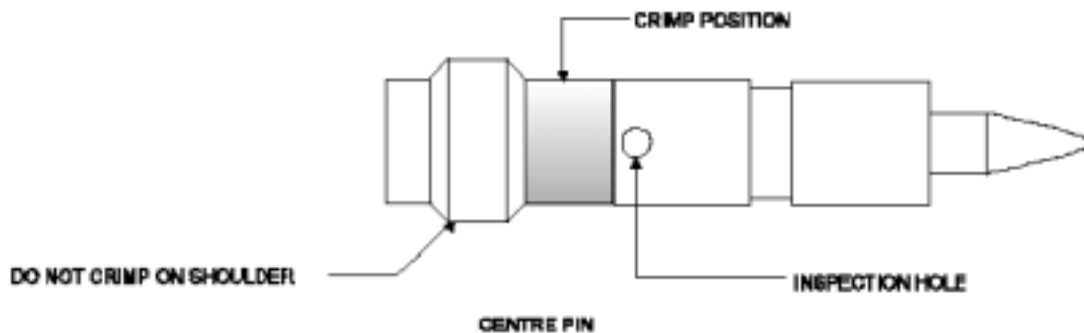

Figure B-7: Fitting center pin onto center conductor
4. Fit centre pin on to the centre conductor. The centre conductor should be seen through the inspection hole (see Figure B-7). Ensure that the shoulder of the pin is butted up to the cable's dielectric.
1. Using an Erma tool and 29207 die, small aperture, crimp centre pin to centre conductor. The crimp section should be just below the inspection hole (see Figure B-7). Do not crimp the shouldered section as it will cause flashing.